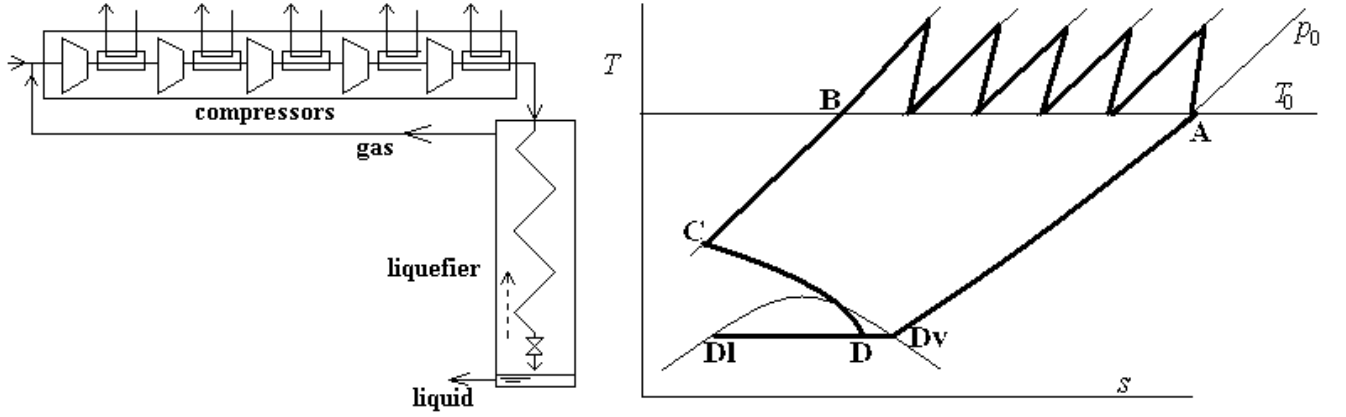

Fig. 1. Sketch of the components and the T - s diagram of the processes (Linde liquefaction).
The theoretical path corresponding to this thermodynamic limit, the perfect path, would consist of an isothermal compression, horizontally to the left from point A in Fig. 1 (where the classical
Linde gas-liquefaction process is presented) up to the pressure of point corresponding to crossing with the isentropic from D1 (vertical from D1 in Fig. 1).
i.e., with the perfect-gas model, each compressor is equally loaded, with the same pressure ratio and same exit temperature (in the limit of inter-cooling down to ambient temperature, an idealisation, of course, because it would require an infinite heat-exchange area). Figure 1 presents the components and processes involved.
The vapour mass fraction x_D at point D in Figs. 1 and 2 is computed from the lever rule in the two-phase system, $h_D = h_{DI} + x_D(h_{Dv} - h_{DI})$, the energy balance from C to D, $h_C = h_D$, and the energy balance at the liquefier-coil, $x_D(h_A - h_{Dv}) = h_B - h_C$, or simply from the liquefier energy balance $h_B = (1 - x_D)h_{DI} + x_D h_A$: